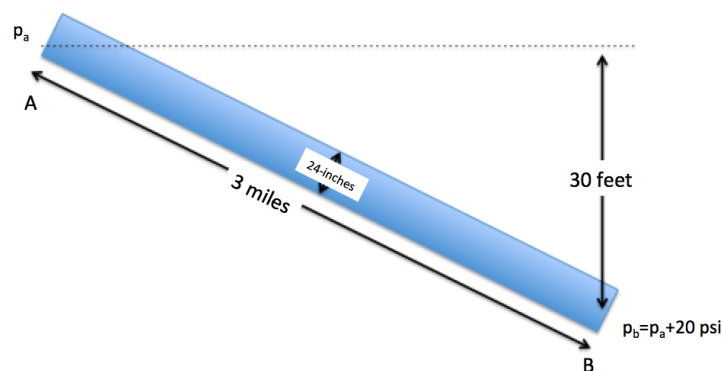

Figure 1: Pipeline Schematic
- Estimate the discharge in the 3 mile long, 24-inch diameter, ductile iron pipeline connecting points A and B depicted in Figure 1. Point A is 30 feet higher in elevation than point B. The pressure at point B is 20 pounds per square-inch (psi) greater than the pressure at point A.